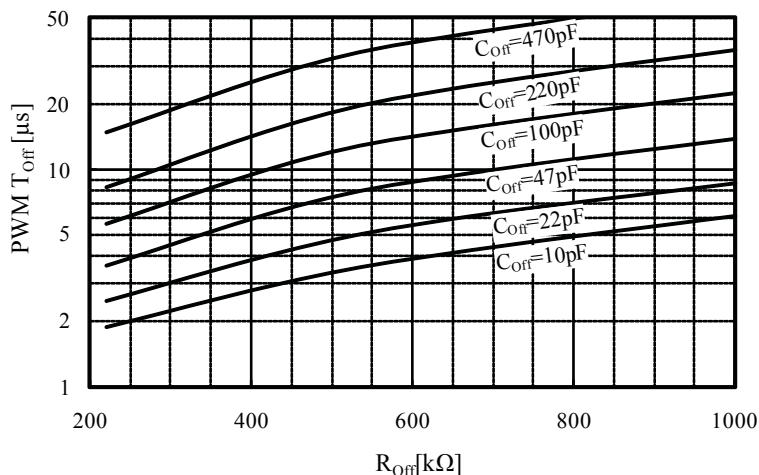

Figure 2. Affect of various values for capacitor  $C_{OFF}$  and resistor  $R_{OFF}$  on PWM off-time
**ROFF, COFF** These decide PWM off-time,  $T_{POFF}$ . Figure 2 shows PWM off-time curves based on various values of  $C_{OFF}$  and  $R_{OFF}$ . PWM off-time is approximately 20  $\mu$ s at the recommended values:  $R_{OFF} = 560 \text{ k}\Omega$  and  $C_{OFF} = 220 \text{ pF}$ .